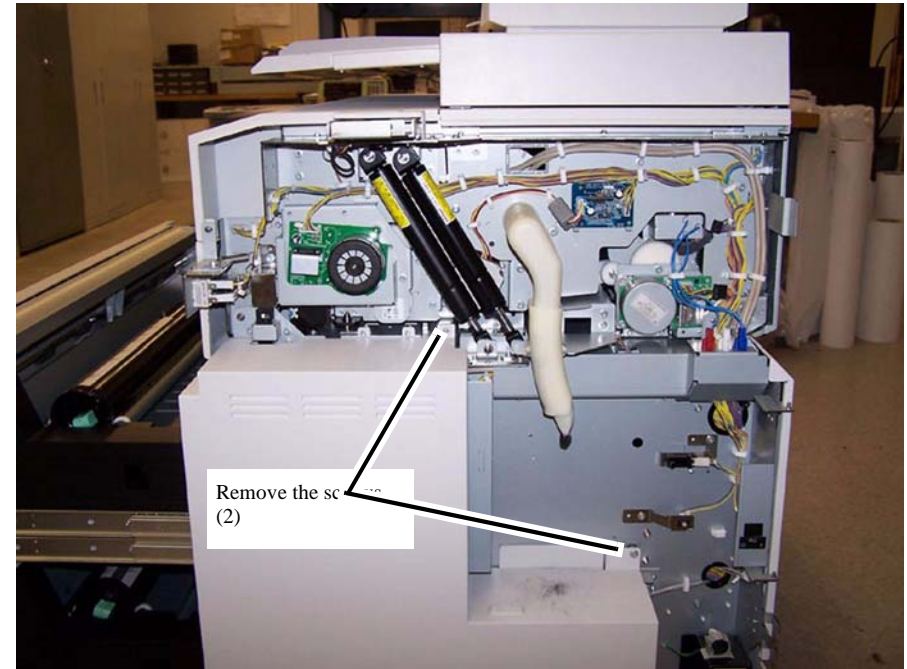

Figure 2 Right Lower Cover screw locations
4. Remove the side screws (Figure 2).